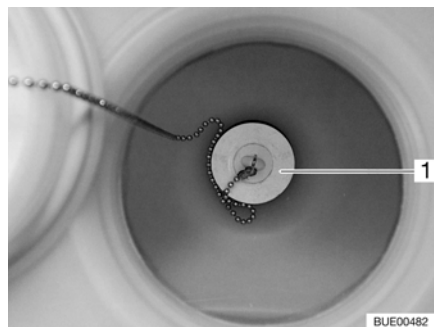

Fig. 90 Water tank, stopper
- Put the stopper (Fig. 90,1) in the drainage opening.